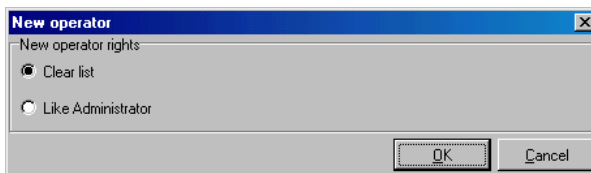

Figure 8 - New User
- ♦ To create a new user, press the **New** button, select **Clear List** and press the **OK** button (see Figure 8).
- ♦ To create a new user with administrator privilege list, press the **New** button, select **Like Administrator** and press the **OK** button (see Figure 8).